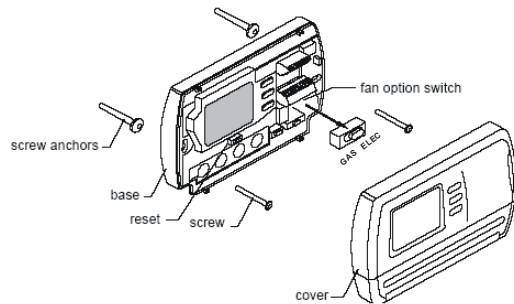

Figure 1
8. Fasten the base loosely to the wall as shown in Figure 1, using two mounting screws. Place a level against the bottom of the base and adjust until level, then tighten the screws. (Leveling is for appearance only, and will not affect thermostat operation.)
Read the following information before setting the fan option switch (See figure 1). If you are unsure of your application, contact a qualified service person.
If a voltage spike or static discharge blanks out the display or causes erratic operation, you can reset the thermostat by pressing the reset button (see figure 1). If the thermostat has power, has been reset and still does not function correctly, contact your heating/cooling service person or place of purchase.